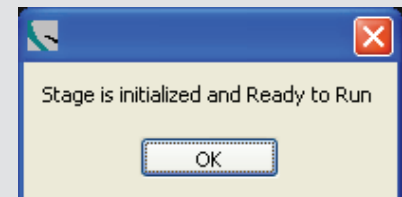

Figure 7.3
4. Once the stage is fully initialized and PV Acquire has established communication with the XYZ stage motors, a confirmation dialog window will appear (Figure 7.3). This message only appears at startup, however, not each time the stage is "homed".